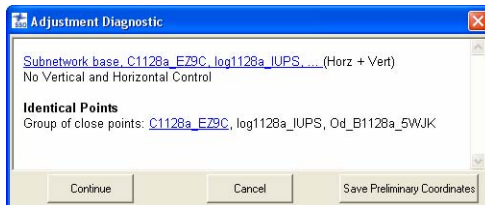

Figure 6-18. Messages After Searching of the Identical Point
- A failed test is where the difference is less than the values set in the *Job Configuration* dialog box. The network adjustment process will be interrupted and the *Adjustment Diagnostic* dialog box will display (Figure 6-18).